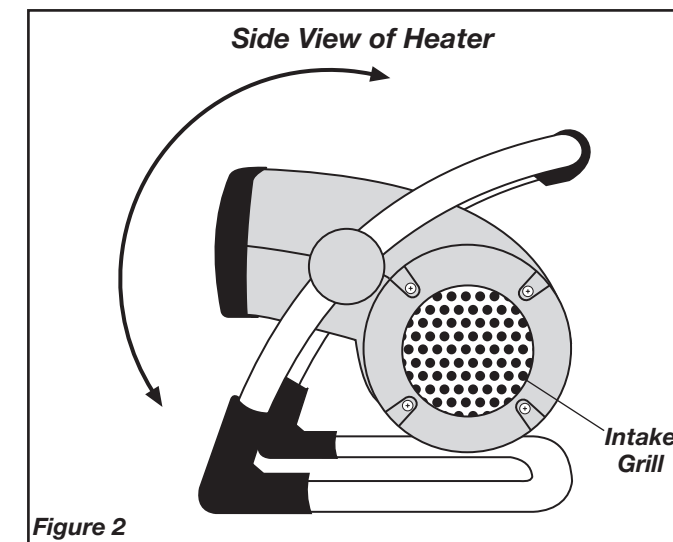

Figure 2
- Move the **Power Knob** to the desired heat setting. High Heat (1500W) is represented by the (2) and Low Heat by the (1).
- To adjust the angle of the Heater air flow, rotate the Heater body forward or backward to the desired position. (Figure 2)
- To disconnect Heater, turn **Power Knob** to the "OFF" position (0), then remove plug from outlet.